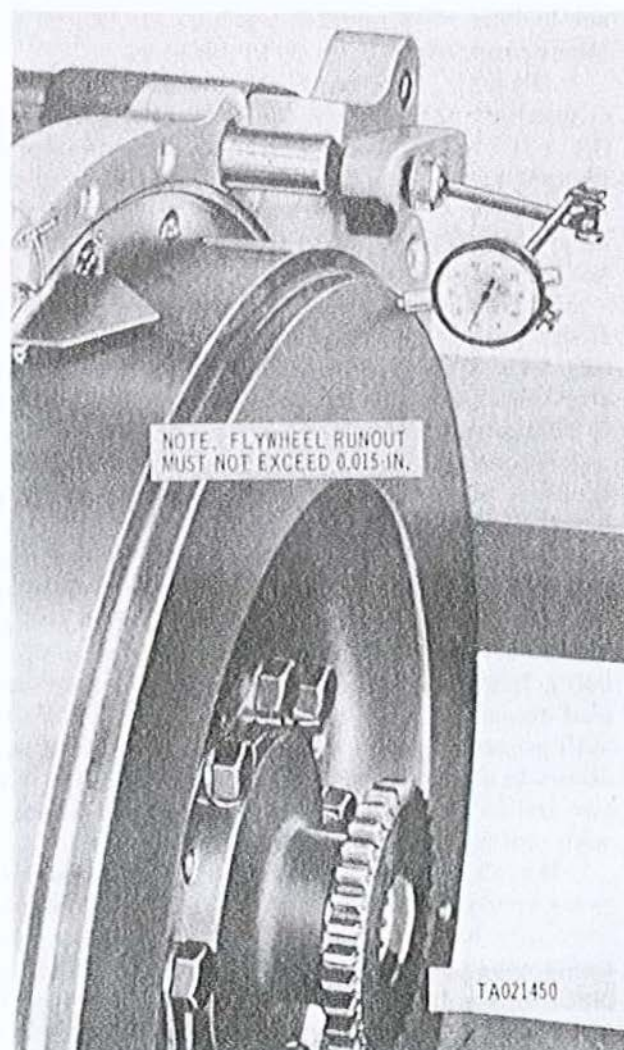

Figure 3-316. Checking flywheel runout using dial indicator, model AVDS-1790-2C and AVDS-1790-2D engines.
k. Check flywheel runout as shown in figure 3-316 using dial indicator. Runout should not exceed 0.015-inch. Replace flywheel if runout exceeds this limit.
k. 3. Check flywheel runout as shown in figure 3-316. Runout shall not exceed 0.015-inch. Replace flywheel if runout exceeds this limit.